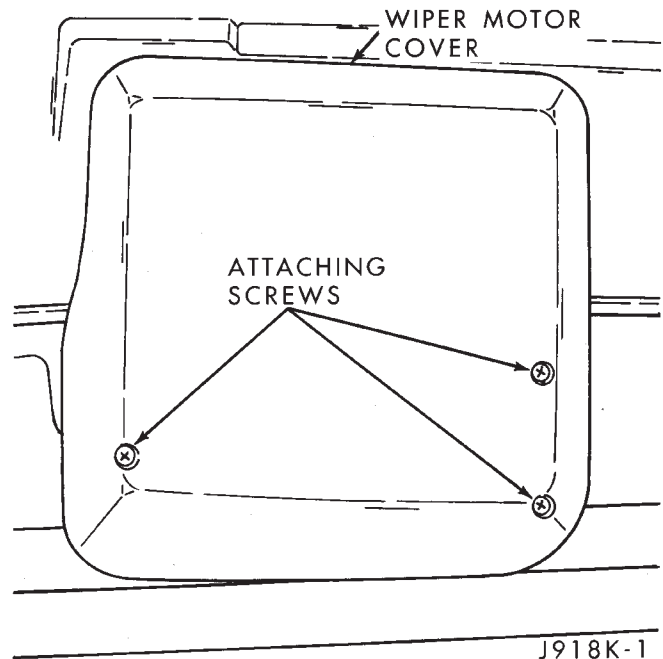

Fig. 14 Rear Wiper Motor Cover
(1) Remove wiper arm from motor (refer to Wiper Arm Replacement).
(2) Remove pivot shaft retaining nut.
(3) Remove motor trim cover (Fig. 14).